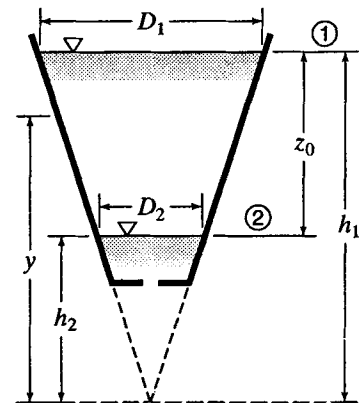

Figure X12.2.3
12.2.3 The tank in Fig. X12.2.3 has the shape of the frustrum of a cone with a 2-ft2 orifice ( $C_d = 0.62$ ) in the bottom. Given  $D_1 = 44 \text{ ft}$ ,  $D_2 = 20 \text{ ft}$ ,  $z_0 = 36 \text{ ft}$ , and that the water level outside the tank is constant at section 2, how long will it take the water level in the tank to drop from section 1 to section 2? (Note: The tank diameter =  $ky$ , and  $y = z + h_2$ , where  $z$  is the variable distance between surface levels.)